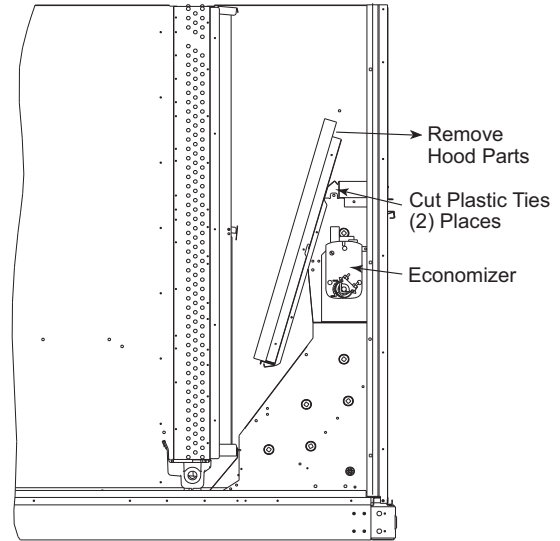

Fig. 10 — Economizer Hood Package Location
3. Locate and cut the (2) plastic tie-wraps being careful (see Fig. 10). Be careful not to damage any wiring or cut tie-wraps securing any wiring.